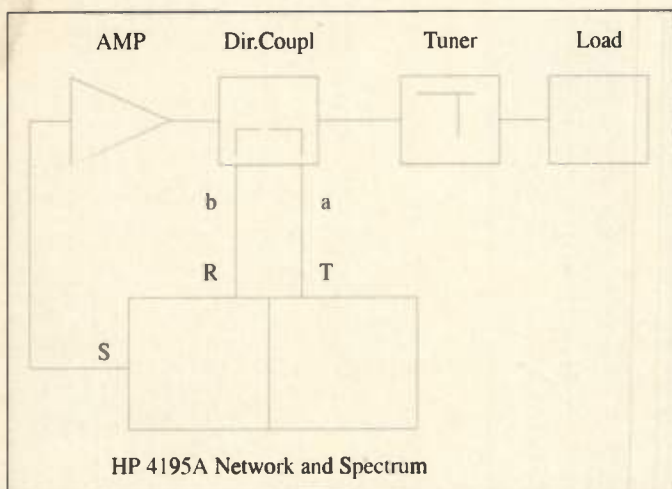

Figure 5. Passive load pull measurements using HP4195A.
Output impedance is measured using the passive load pull technique (6) and the test setup shown in Figure 5. The combined network and spectrum analyzer HP4195A is programmed to shift between measuring and displaying the impedance and actual delivered power. For a given power level, the tuner is